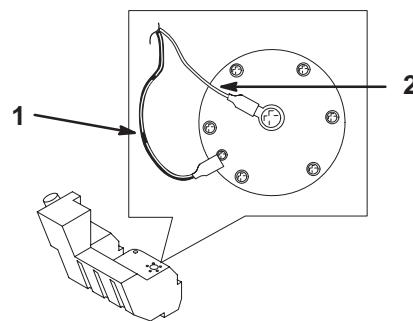

Figure 12
3. On the right side of the tank, connect the orange wire to the center post and the black wire to the outside post (Fig. 12).